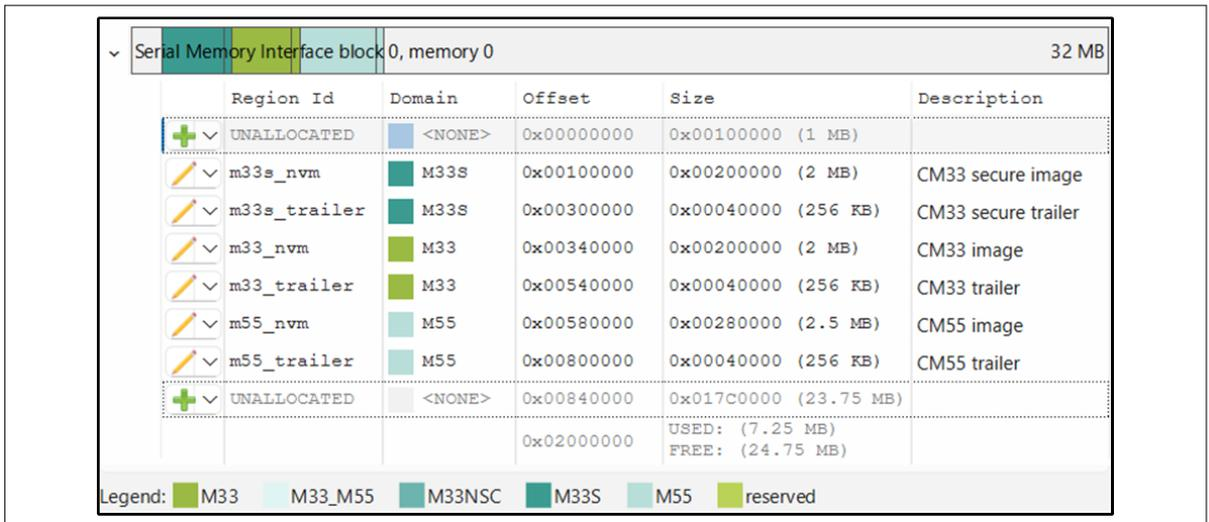

Figure 22 Memory regions for OSPI flash
- In the Device Configurator, open the Memory tab. Under Serial Memory Interface (SMIF) Block 0, Memory 0, add the memory regions to match the layout shown in Figure 22. Adjust each region’s size as needed for your application.